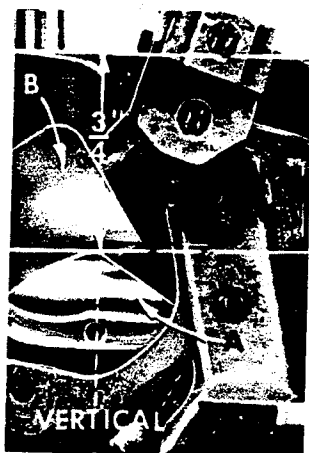

Fig. 18
Set 401 looper thread take-up cam eyelet so rear eyelet hole is directly under looper thread cast-off corner of cam (A, Fig. 18) when cam is at its most rearward position. Front and rear eyelet holes to be set horizontally. Looper thread eyelet (A, Fig. 19) to be set vertically and approximately centered in its slot.
When the 401 looper thread cam is correctly positioned on the needle arm shaft, the cast-off corner (A, Fig. 18) will be  $\frac{3}{4}$  inch vertically below the top surface of the bed, when the needle arm is at its highest position (Fig. 18). This adjustment is made at the factory, but if checked and moved, it must be observed that the cam functions as a thrust collar for the needle arm shaft and correct thrust must be maintained. If this setting is correct, the casting-off may be timed. To change the time of casting-off, move the cast-off blade (B) up or down, rotating it about its holding screw. Set cast-off blade to cast-off looper thread when the needle point is between the bottom and top of the looper.
Observe the action of the looper thread take-up at the bottom of the needle stroke. The looper thread is lying across the cam lobes, slack from the previous casting-off. As the needle arm rises to the top, the looper thread will begin to tighten across the cam until cast-off will again occur and the looper thread will lie in the crotch of the cast-off blade (B, Fig. 18).